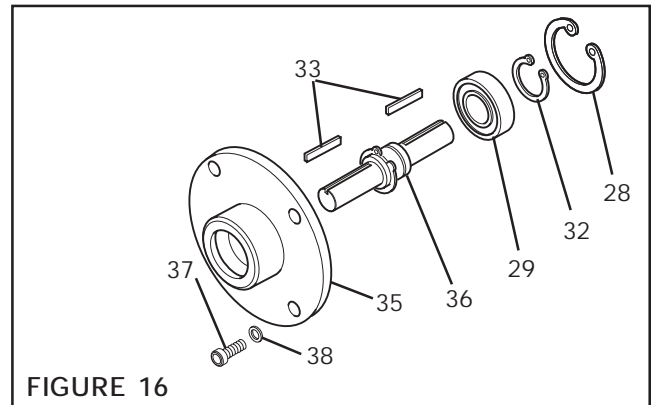

FIGURE 16
2. Remove the Retaining Ring (Item 28) from the output end of the Input Unit (See Figure 16).
3. Fully supporting the Flange (Item 35), press the Shaft (Item 36) out of Input Unit (See Figure 16).
NOTE: Bearing (Item 29) will come out of the Flange (Item 35) with the Shaft (Item 36) (See Figure 16).
4. Remove the Retaining Ring (Item 32) from the Shaft (Item 36) (See Figure 16).
5. Press the old Bearing (Item 29) off the Shaft (Item 36) (See Figure 16).
8. Carefully align the outer race of the new Bearing (Item 29) with the bore of the Flange (Item 35) and press the new Bearing into place (See Figure 16).
10. Fully supporting the inner race of the Bearing (Item 29), press the Shaft (Item 36) into the Bearing until the Retaining Ring (Item 32) is seated against the Bearing (See Figure 16).
9. Reinstall the Retaining Ring (Item 28) (See Figure 16).
11. Reinstall the second Retaining Ring (Item 32) (See Figure 16).